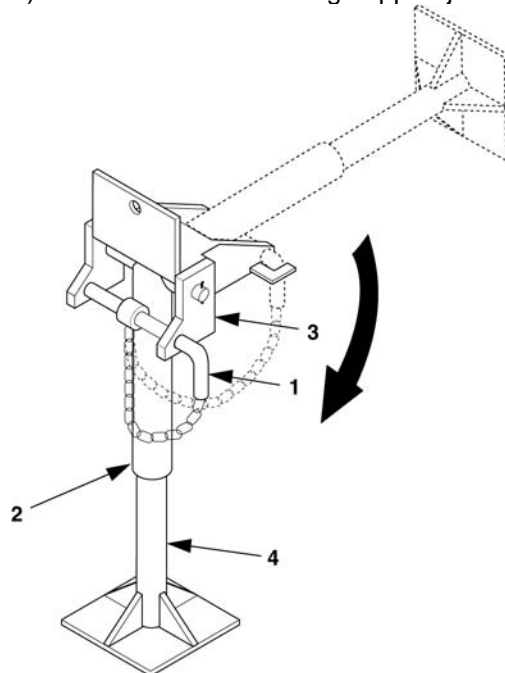

Figure 2-7. Rear Leveling-Support Jack.
- e. Pull out pin (1, figure 2-7) that secures rear leveling-support jack (2) in travel position.